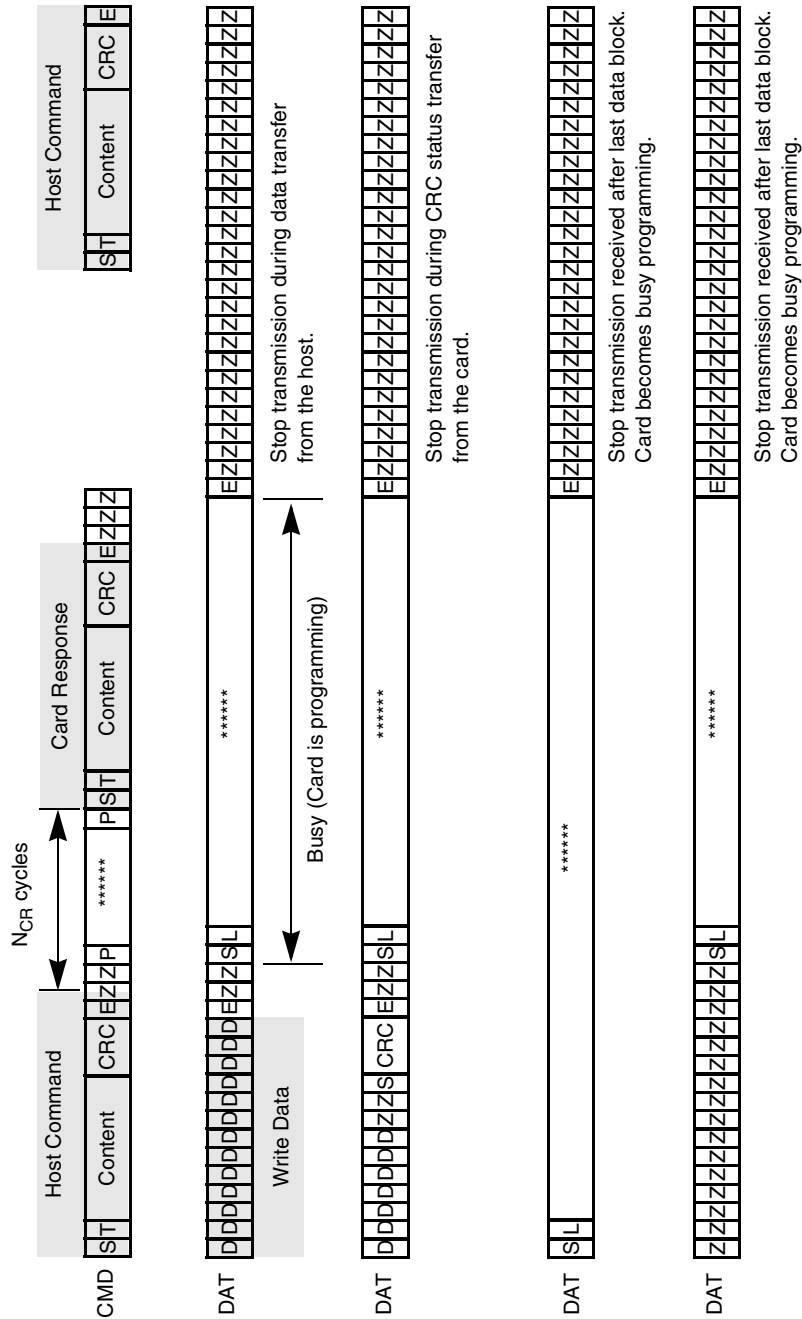

Figure 47. Stop Transmission During Different Scenarios
The card identification and card operation conditions timing are processed in open-drain mode. The card response to the host command starts after exactly  $N_{ID}$  clock cycles. For the card address assignment, SET\_RCA is also processed in the open-drain mode. The minimum delay between the host command and card response is NCR clock cycles as illustrated in Figure 43. The symbols for Figure 43 through Figure 47 are defined in Table 23.
**Table 23. State Signal Parameters for Figure 43 through Figure 47**
The stop transmission command may occur when the card is in different states. Figure 47 shows the different scenarios on the bus.
Table 24. Timing Values for Figure 43 through Figure 47